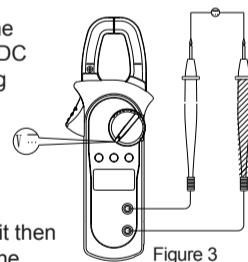

Figure 3
1. DC voltage measurement (V_{DC}) (See Figure 3)